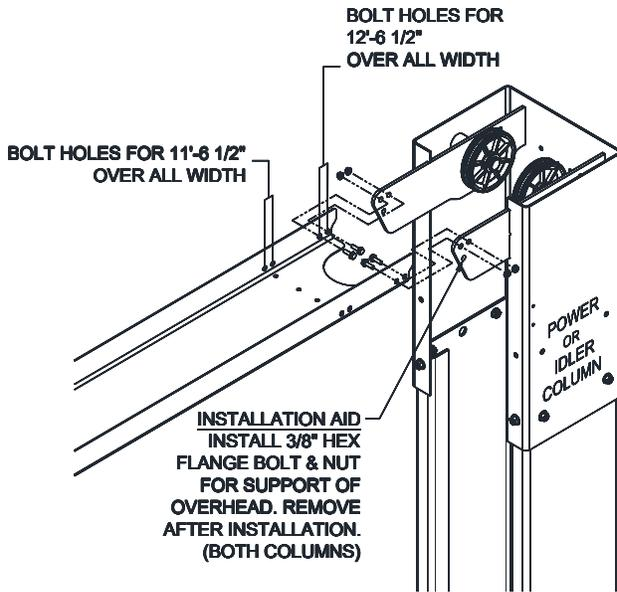

Fig. 8 – Overhead Assemble
- 19) Before raising overhead into position install 4 (2 per column) hex flange bolts and nuts in middle hole of column extension (*see Fig. 8 Installation Aid*) for temporary support of overhead. Lift overhead assembly up into position and install with 8 (4 per column) 3/8-16 x 3/4" lg hex flange bolts and hex flange nuts per side as shown in **Fig. 8**. For the max width position, the outer overhead holes will be used. For the (-6") width, one set of outer overhead holes and one set of inner overhead holes will be used. For the (-12") width, the inner set of overhead holes will be used.